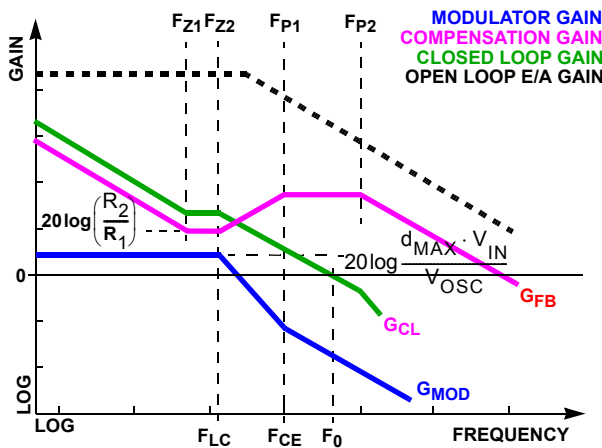

FIGURE 27. ASYMPTOTIC BODE PLOT OF CONVERTER GAIN
Figure 27 shows an asymptotic plot of the DC/DC converter’s gain vs frequency. The actual Modulator Gain has a high gain peak dependent on the quality factor (Q) of the output filter, which is not shown. Using the previously mentioned guidelines should yield a compensation gain similar to the curve plotted. The open loop error amplifier gain bounds the compensation gain. Check the compensation gain at  $F_{P2}$  against the capabilities of the error amplifier. The closed loop gain,  $G_{CL}$ , is constructed on the log-log graph of Figure 27 by adding the modulator gain,  $G_{MOD}$  (in dB), to the feedback compensation gain,  $G_{FB}$  (in dB). This is equivalent to multiplying the modulator transfer function and the compensation transfer function and then plotting the resulting gain.